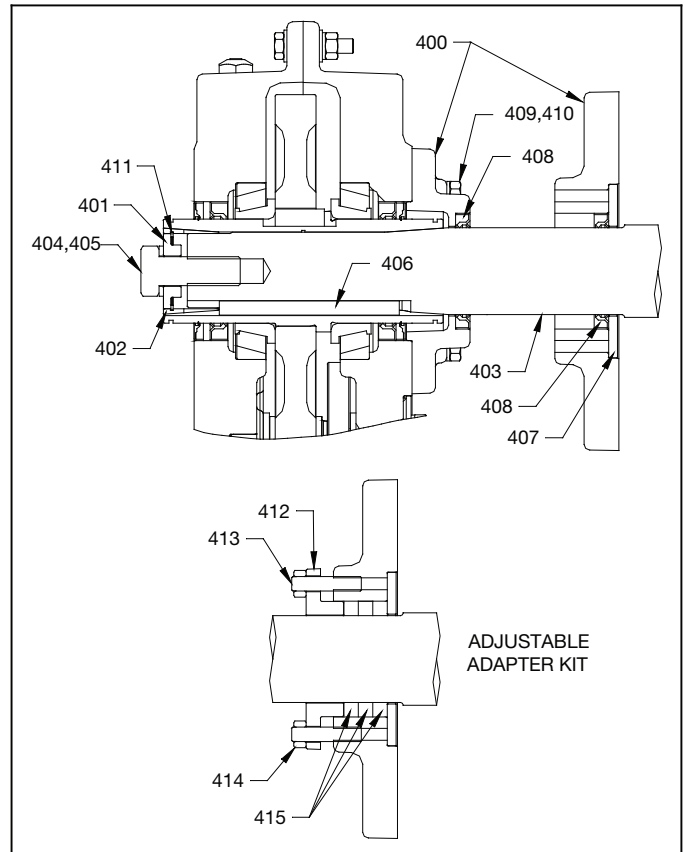

Figure 12 - Screw Conveyor Adapter Assembly
1. Install seals (408) into adapter housing as shown in Figure 12. If the optional packing adapter is to be used, install only one seal in the small end of the adapter. Use extreme care when installing seals to avoid damage to the seals. Press or tap seals into place by applying pressure only on the outer edge of the seal. Make sure seals are installed evenly and are not tilted.
2. If using the optional packing adapter, install the two studs (413), retaining ring (412), and two nuts (414). Thread the nuts onto the studs about 4-5 threads. Install the three braided type seals (415) in a circular direction into the adapter cavity. Shoulder the braided seals against the adjustable retaining ring (412). To aid in installation of the driveshaft in step 7, the braided seals can be flattened out slightly with a soft hammer prior to installation. When installing the braided seals offset the joints from each other.
3. Lightly tap the large washer (407) into the counterbore on the large end of the adapter to seal the braided material installed in step 2 or the seal installed in step 1.
5. Position screw conveyor adapter (400) on the reducer output hub so that the small end (end with four drilled holes) rests on reducer. The approximate 1/8" (3mm) piloting projection should locate in the output seal bore next to the auxiliary seal. Adapter projection should not touch the face of the gear case casting.
6. Place four adapter screws (409) and lock washers (410) through the adapter and thread into the reducer. Tighten the four cap screws (409) to the torque specified in Table 11.
8. Install the retaining ring (411) into the screw conveyor wedge (402). Making sure the driveshaft is fully seated into the reducer, slide the wedge onto driveshaft.
9. Install keeper plate (401), driveshaft cap screw (404), and lockwasher (405). Torque to specifications in Table 11.